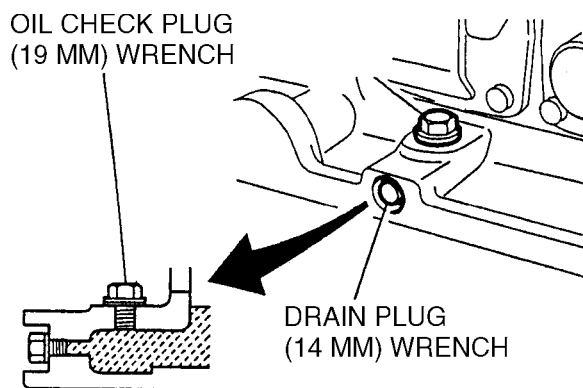

Figure 27 . Vibrator Oil Maintenance
1. In every 100 hours of operation, with the machine positioned horizontally, remove vibrator oil level check plug (Figure 27) off vibrator (19 mm wrench) and see if oil is up to filler port. Be sure to clean area around check hole to prevent dirt and dust from entering.